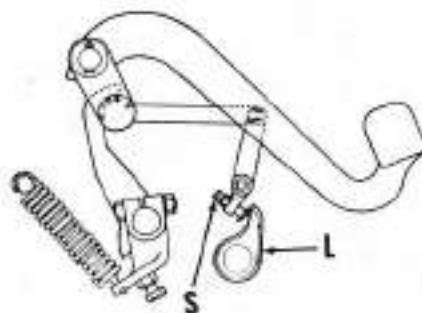

Fig. 91 — View showing adjusting screw (S) for clutch stop lever (L) clearance; refer to paragraph 132.
Fig. 91) and adjusting screw (S). Loosen lock nut and turn screw as required to obtain 1/16-inch clearance, then tighten lock nut. Note: Early model 880 and 990 tractors were not equipped with type of clutch shaft brake with external linkage as in Fig. 91.